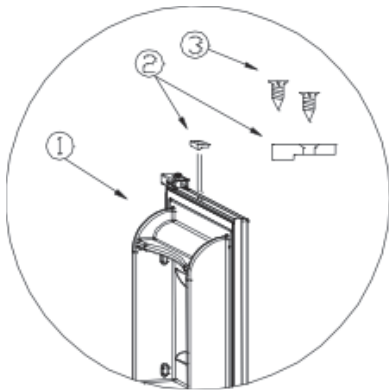

Fig. 8-13
Note! Light switch support piece (see Fig. 8-13) is mounted at the top of the door and prepared for right-hinged door. If you want to change the door from right to left, this plastic piece (2) must be moved to the opposite end of the door. Remove the screws (3) and move the piece to the opposite end of the door and fit the screw in the ready-drilled hole.